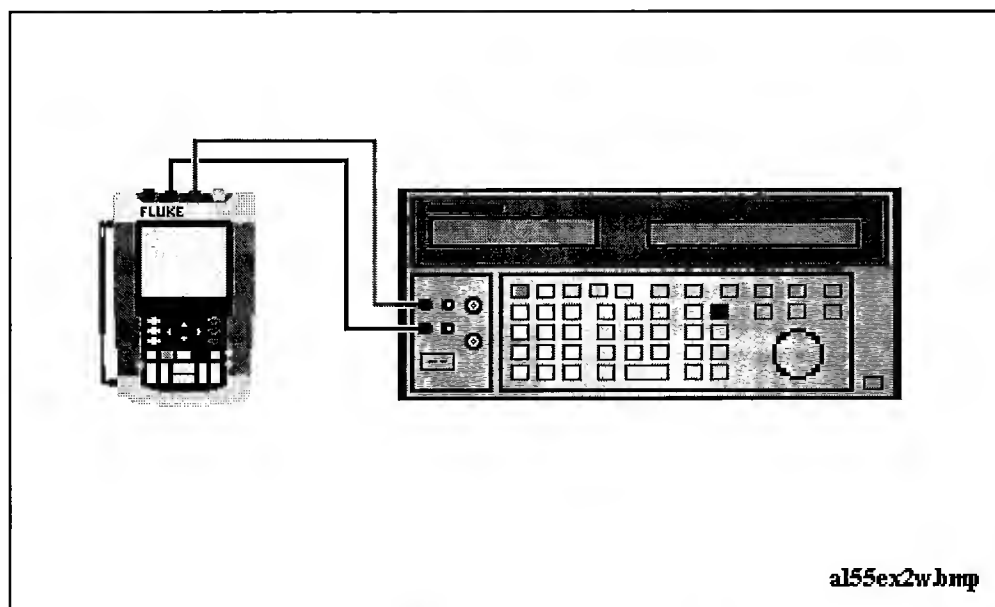

Figure 4-16. Test Tool Meter/Ext Input to 5500A Normal Output
1. Connect the test tool to the 5500A as shown in Figure 4-16.
1. Connect the test tool to the 5500A as for the previous test (see Figure 4-16).
2. Connect the test tool to the 5500A as for the previous test (see Figure 4-16).